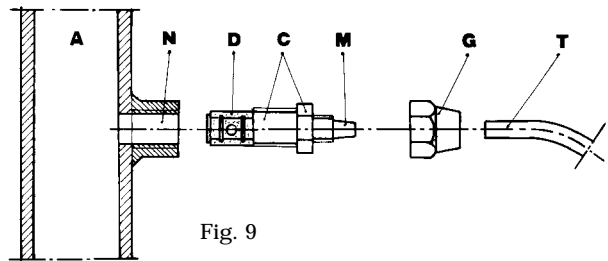

Fig. 9
- g. - Select the most appropriate injection point on a pipe of the plant to be treated and there fit a 3/8" female steel gas thread connector (similar to BSPm). This connector is not supplied with the pump. Screw the injection valve to the gas connector, inserting a gasket as shown in Fig. 9. Then connect the discharge hose to the conical connector on the injection valve and fix it with the supplied tube nut. The injection valve also acts as no return valve by means of a cylinder sleeve (elastomer, standard supplied in Viton).
### 3.1 - INJECTION VALVE INSTALLATION DIAGRAM (Fig. 9)